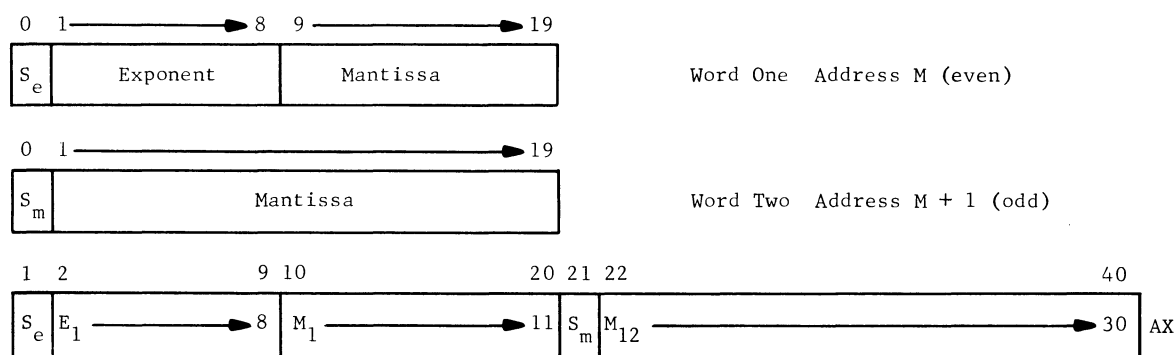

Figure 4. Floating-Point Data Word Format
1. Exponent. As used with the AAU, the exponent (or characteristic) constitutes the 9 most significant bits (8 numeric bits and a sign bit) of a double word (see Figure 4). These bits designate to what power of 2 the mantissa portion of the word must be raised.
2. Mantissa. In the AAU, the mantissa is the 30 least significant bits of a double word. The radix point (see Radix Point described below) for these 30 bits is assumed to be to the left of the most significant of the 30 bits. Thus, the mantissa is fractional in value (see Figure 4).
Floating-point numbers are stored in memory and in the AX-register in the formats shown in Figure 4. The binary point is assumed to be before the first bit (bit 10) of the mantissa. This format produces a binary number with a 30-bit mantissa and a binary characteristic range of